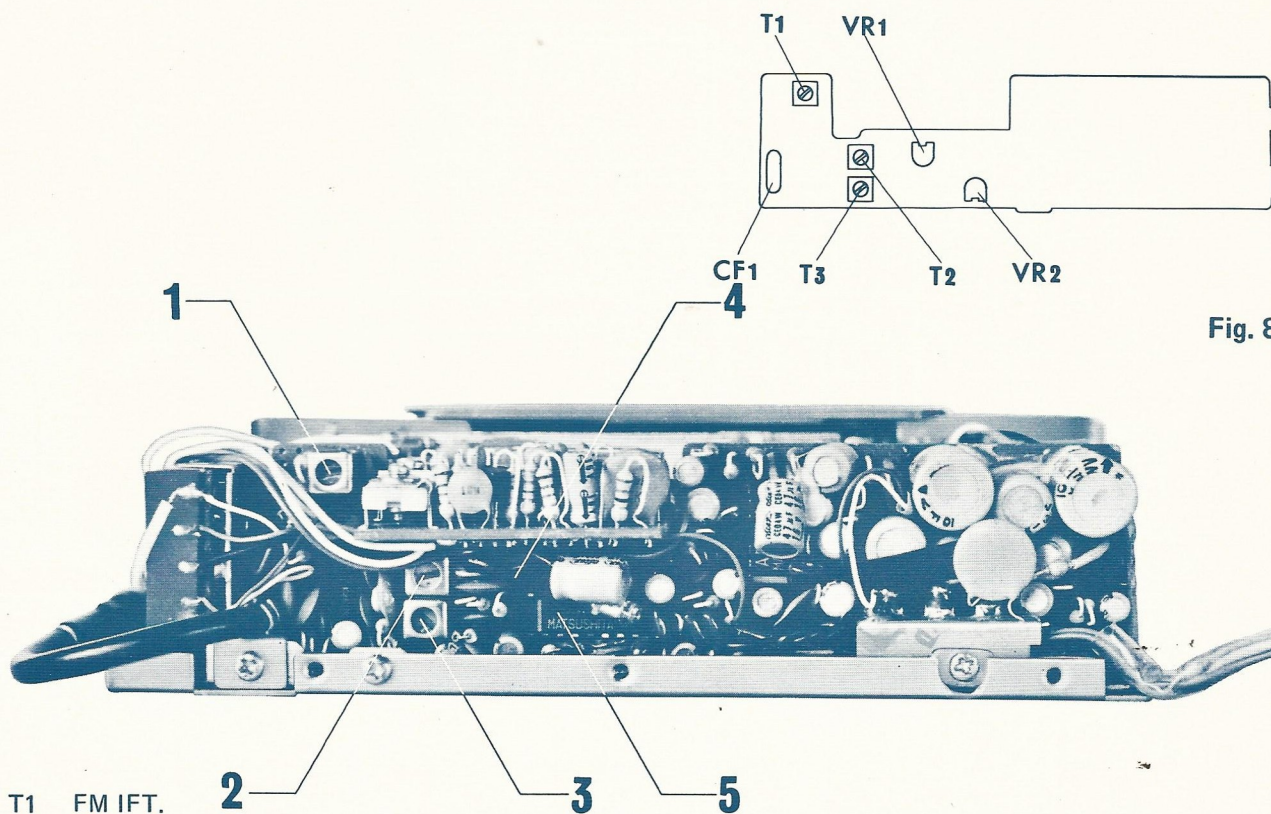

Fig. 8
- 1) By adjusting 20KΩ VR1 make MPX lamp go on. (Fig. 8)